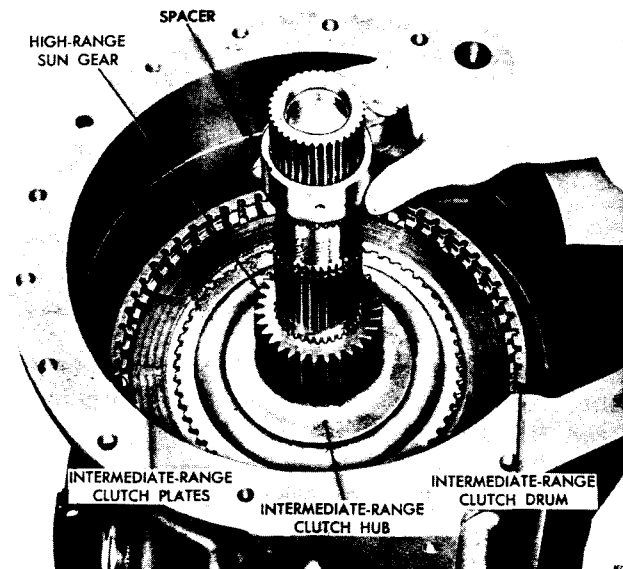

Fig. VII-15. Installing spacer onto high-range sun gear ^{S2507}
(5) Install the intermediate-range clutch hub (fig. VII-15).
(1) Install the high-range planetary sun gear (fig. VII-15).
(2) Install the spacer (or snap ring – see note below) onto the high-range planetary sun gear.